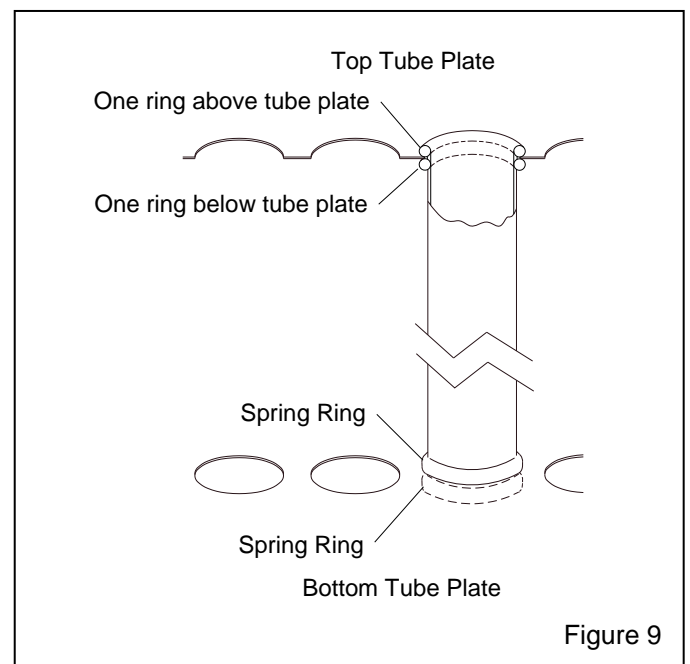

Figure 9
**6.2 Filter Tube Replacement, Figure 9**
**6.2.1** Replace damaged filters immediately. Remove the old filters by pulling the spring rings off the bottom and top tube plates. Working from the back to the front, install one filter at a time. To install new filters, form the end of the spring ringed tubular filter into a shallow "c" shape, push the filter far enough into the hole of the top plate to allow one spring ring to snap into place above the tube plate and the other to snap into place below it. Refer to the illustration in Figure 9.